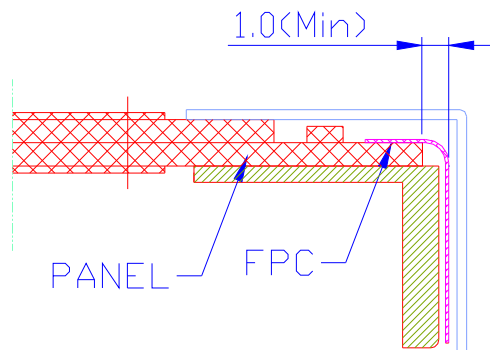

Figure 14-2
- e) After combining the plastic frame with the top chassis, user must reserve enough space to FPC to avoid FPC damage due to lack of space Figure 14-2.